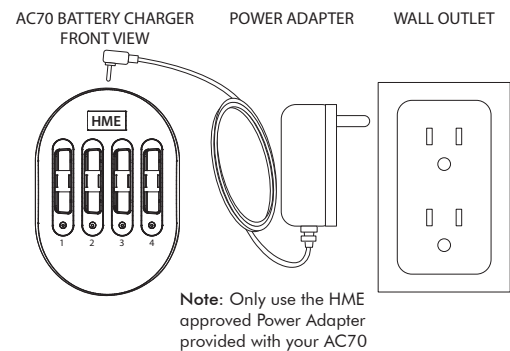

Fig. 1
2. Connect the power adapter to a wall outlet, and the other end to the power connector on the AC70 (Fig. 1).
1. Connect the power adapter to a wall outlet, and the other end to the power connector on the AC70 (Fig. 1).